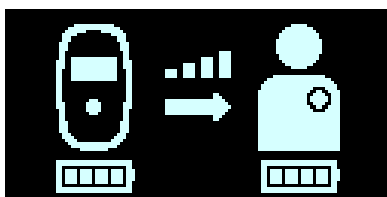

Figure 15: Charging IPG Status Screen
- After the data download has been completed, the Charging IPG Status screen will be displayed, indicating that your Guardio Charger has begun actively charging your OPTIMIZER Smart Mini IPG. **See Figure 15.**
8. The Charging IPG Status screen (see **Figure 15**) will continue to be displayed as your OPTIMIZER Smart Mini IPG is being charged.